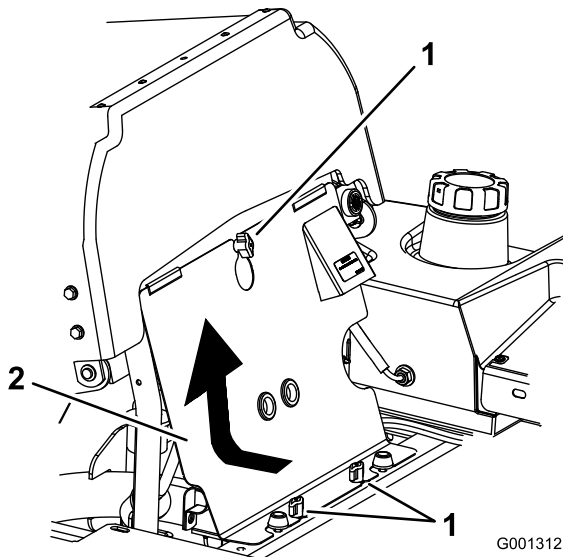

Figure 58
3. Loosen the front engine panel knobs and remove the panel (Figure 58).